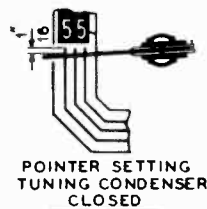

FIG. 3.—Dial Pointer Calibration.
2. Holding the tuning condenser in this position, loosen the clamp and turn the dial until the indicator is centered on the middle index line (See Fig. 3). Tighten clamp with dial in this position.
- 2 Holding the tuning condenser in this position, turn the pointer until it is $\frac{1}{16}$ of an inch below the three lines of the scale at the 550 K.C. end. (See Fig. 3.) This is the correct position of pointer at maximum capacity of tuning condenser.